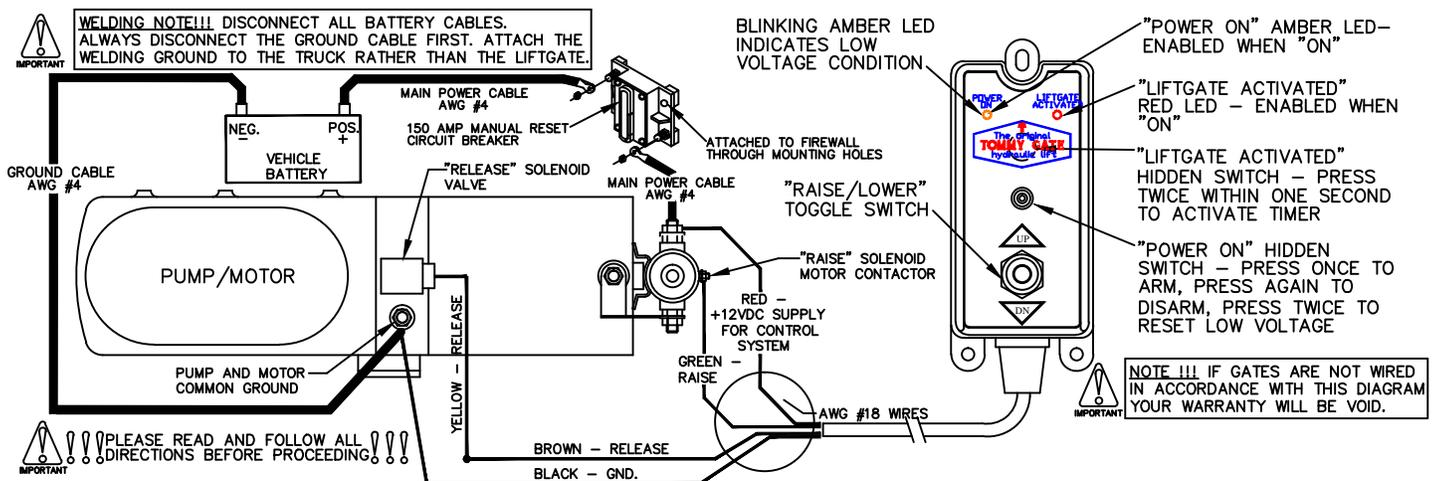

Figure 12: Wiring diagram.
2. **Push** the hidden "Power On" switch (Figure 12). The amber "Power On" LED will illuminate.
3. **Pull** the power cable (coiled up in the liftgate mainframe) carefully through the strain relief. Leave approximately two (2) inches of slack inside the liftgate mainframe.
12. **Connect** the circuit breaker and battery as outlined in the *Tommy Gate Recommended Electrical Wiring Guidelines* and wiring diagram (Figure 12).